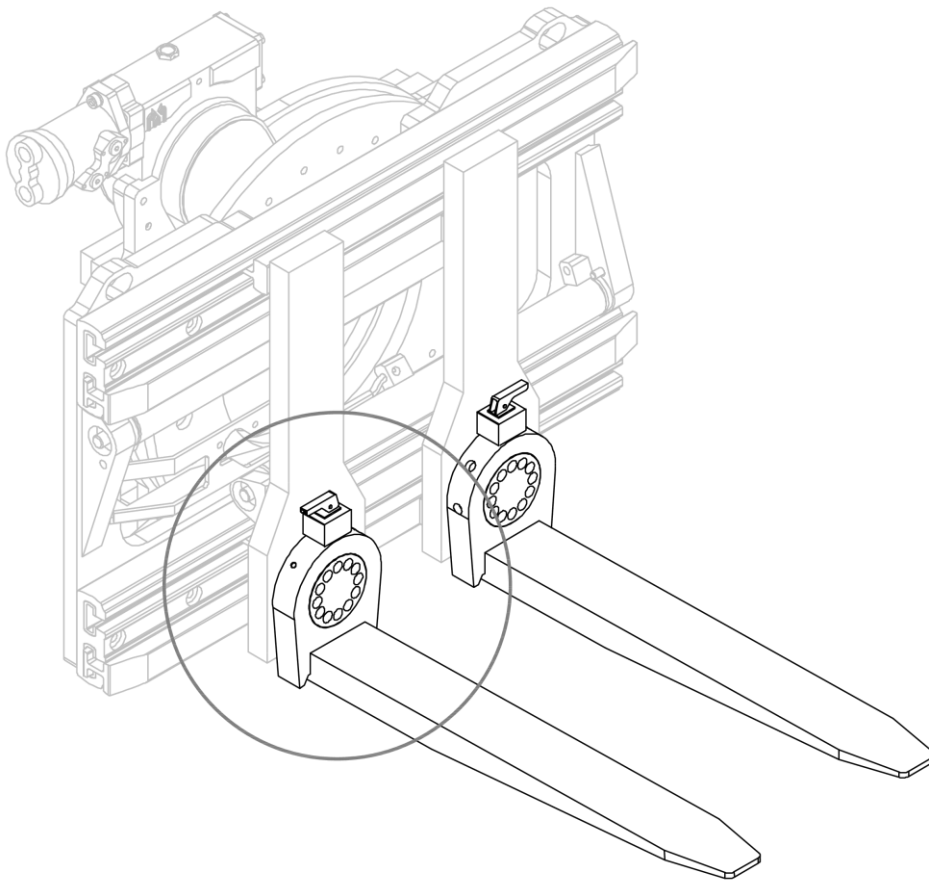
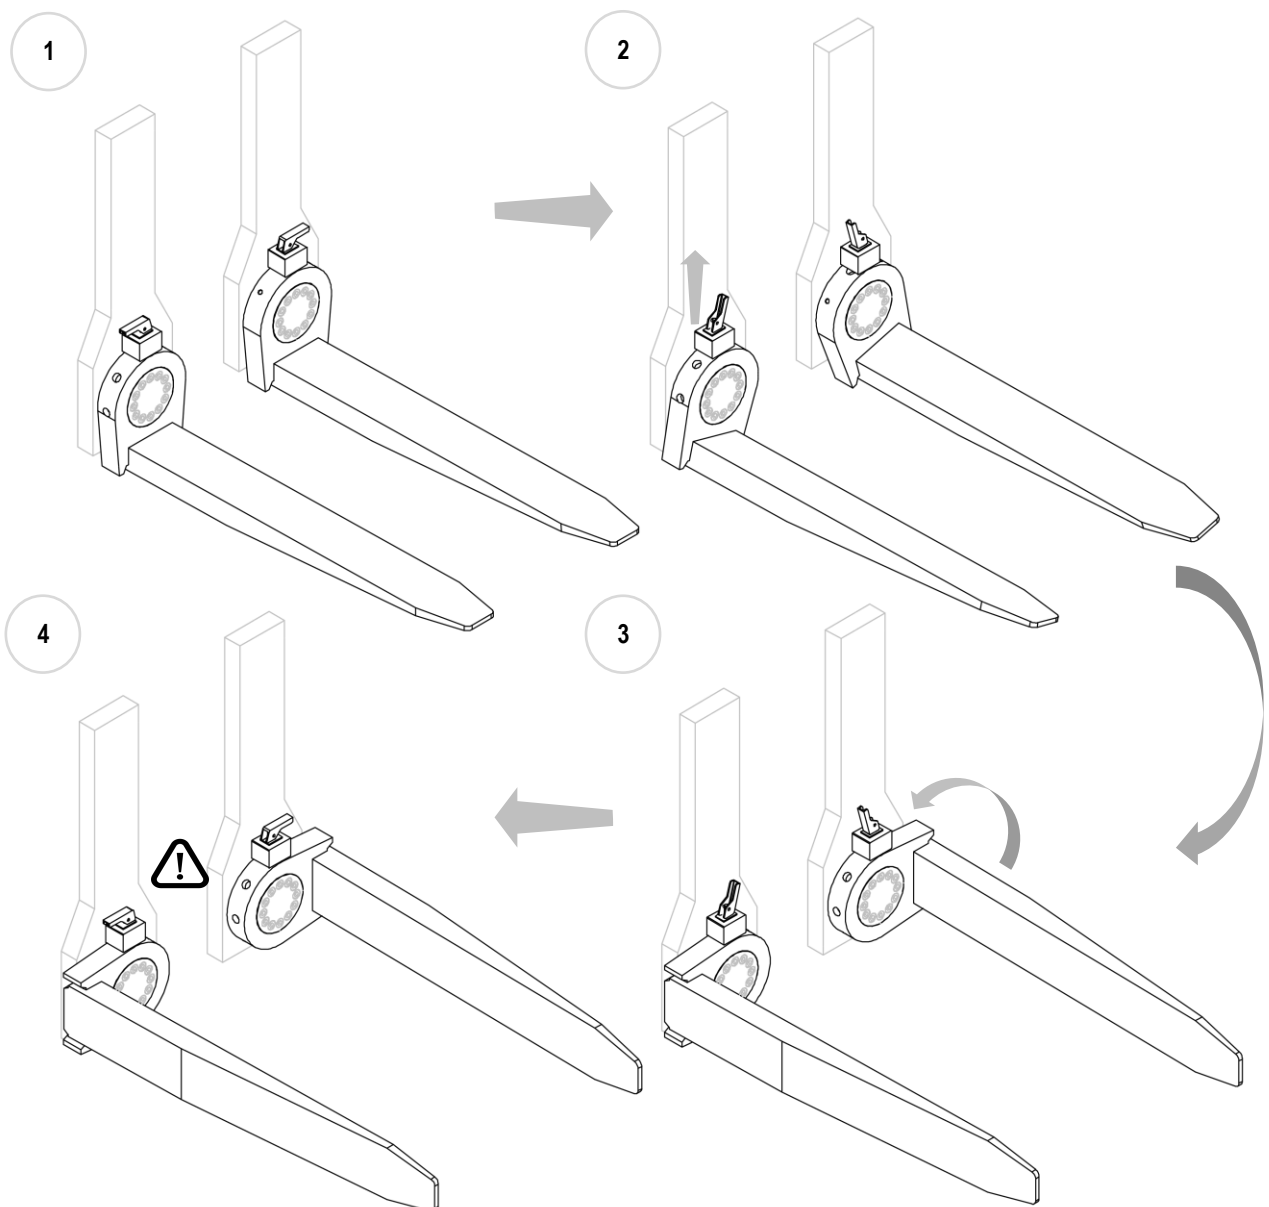

Figure 17
Figure 18
2. Use *Figure 17* and *Figure 18* as guides.